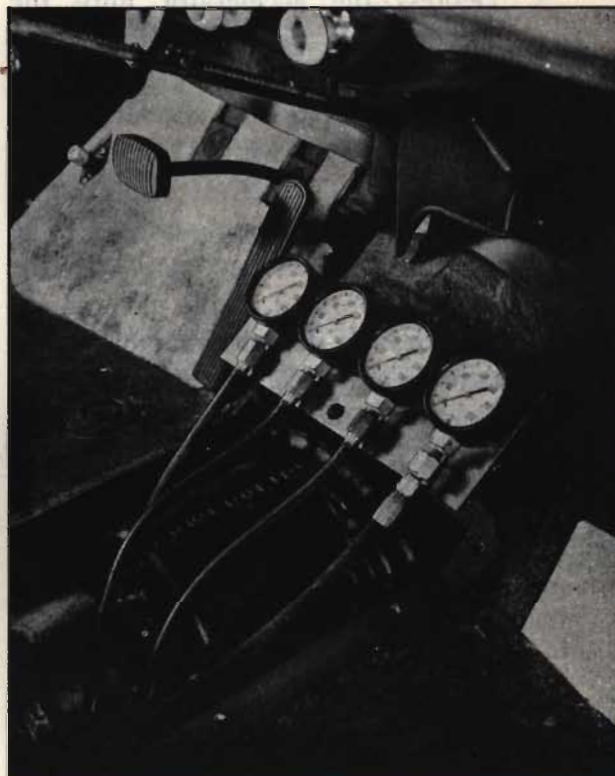

Fig. 9. Connecting pressure gauges
2. A pressure gauge can be connected to each of the following test points: (Fig. 9).